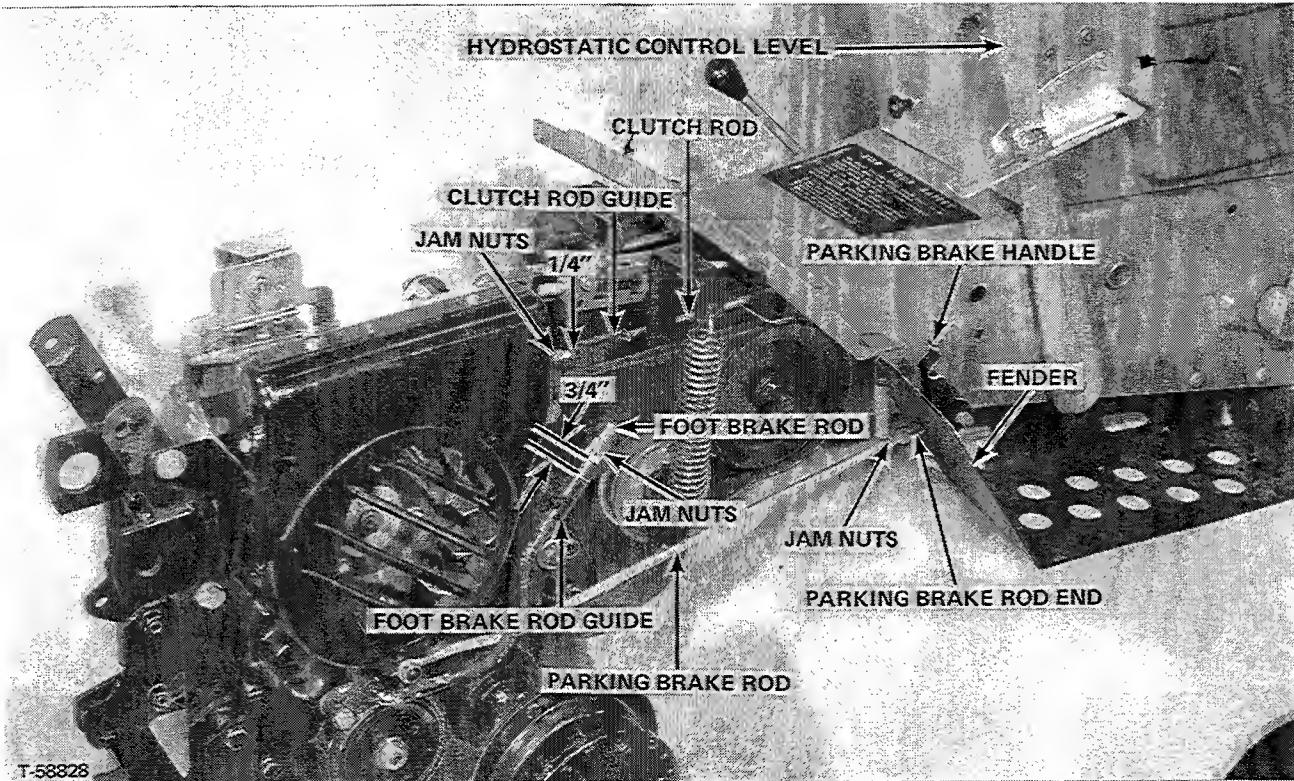

FIGURE 45
1. (Figure 45), loosen nut from rod end at front of parking brake rod. Turn parking brake handle and rod end until parking brake is fully tight when parking brake handle is pulled up against fender as shown.
2. With parking brake tight, adjust jam nuts on end of foot brake rod to provide $3/4''$ clearance to rod guide (Figure 45).
3. Adjust jam nuts on clutch rod to have $1/4''$ clearance from clutch rod guide as seen in Figure 45.